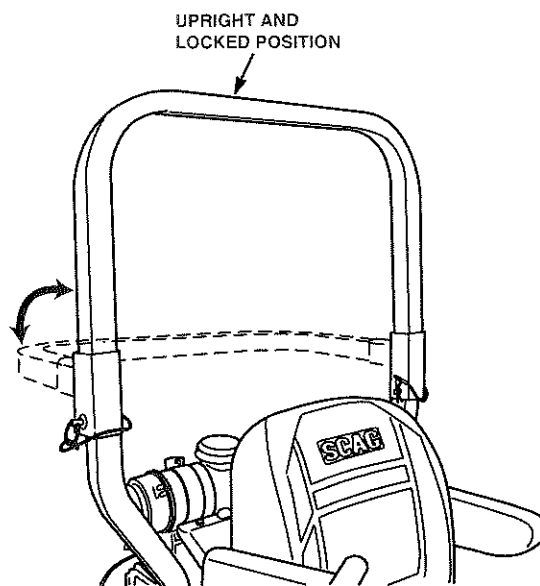

Figure 2-2 Foldable Roll-Over Protection System
2. Lower the roll bar to the down position. See Figure 2-2.
3. To raise the roll bar, lift the bar to the upright position. See Figure 2-2.